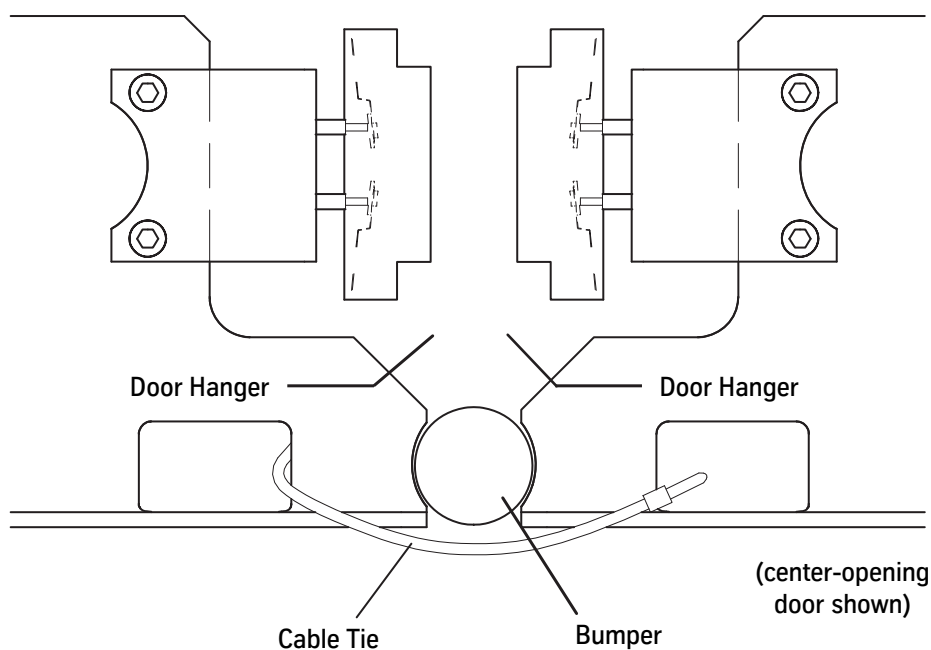

Figure 43 - Door Hanger Fully Closed Position Against Bumper
1. Move the door hanger(s) to the fully closed position against the LD-16 bumper. See Figure 43.